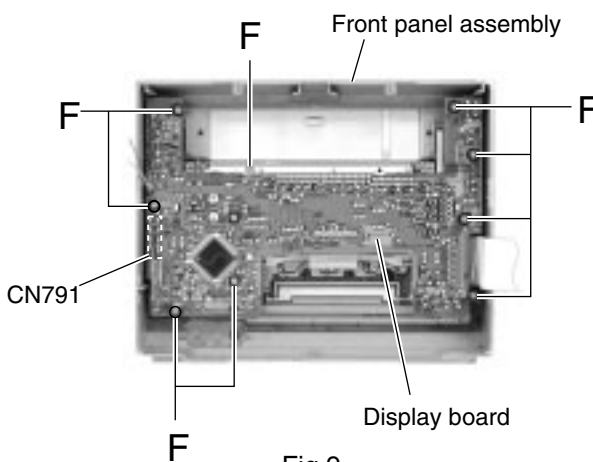

Fig.9
**■ Removing the display board (See Fig.9)**